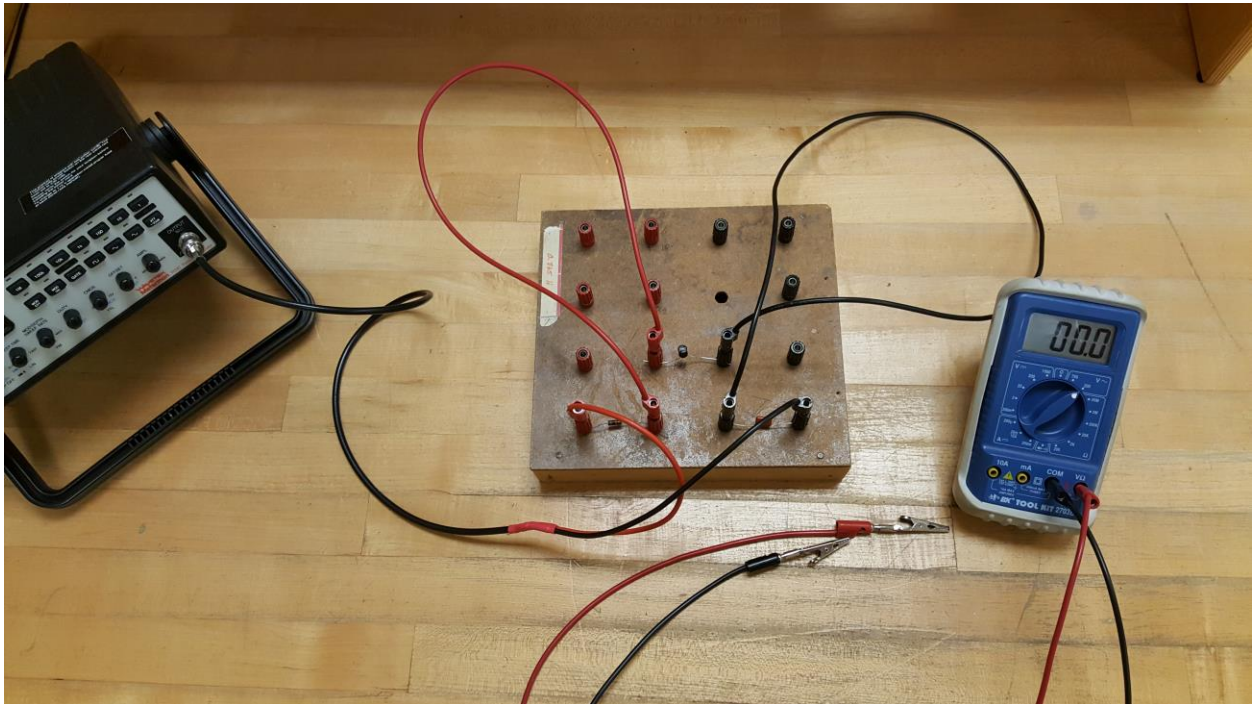

Figure 1
4) Construct the circuit as seen below in Figure 1. You should pine down the resistor in two posts, the inductor in two posts, and the capacitor in two posts. Then, run one wire from one end of the resistor to one end of the inductor, and another wire from the other end of the inductor to one end of the resistor. Then, connect the two leads from the coaxial cable from the power supply to the free end of the resistor and the free end of the capacitor. Run the black wire from the coaxial to the capacitor free end and the other colored wire (likely red) to the free end of the resistor. This should be a circuit with the resistor, inductor, and capacitor in series.